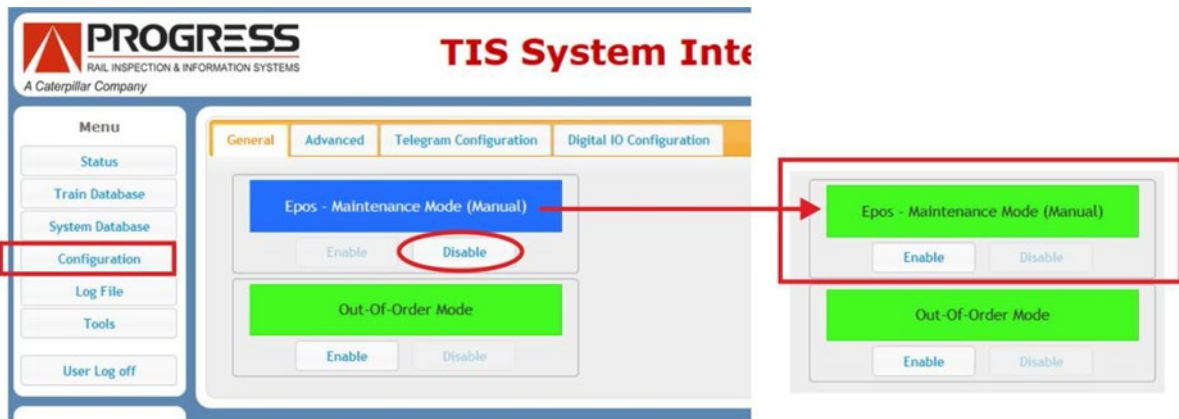

Figure 11 - Maintenance mode in FUES-EPOS GUI
- 8.2 Check the system status in the "Status" menu. See Figure 11.